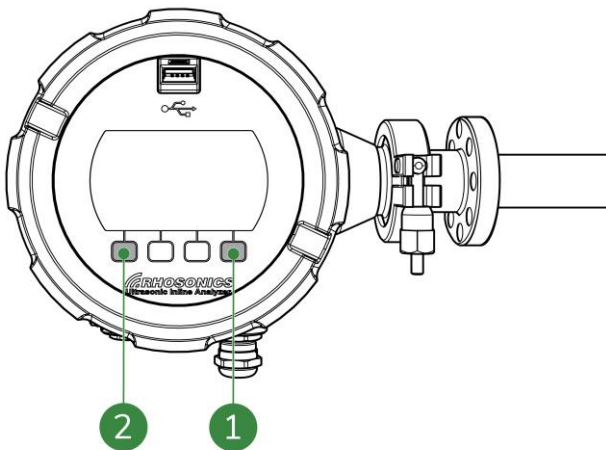

Figure 9-4: Display buttons
- Press the 2 outer buttons on the display (Figure 9-4, pos. 1 and 2) simultaneously, or;